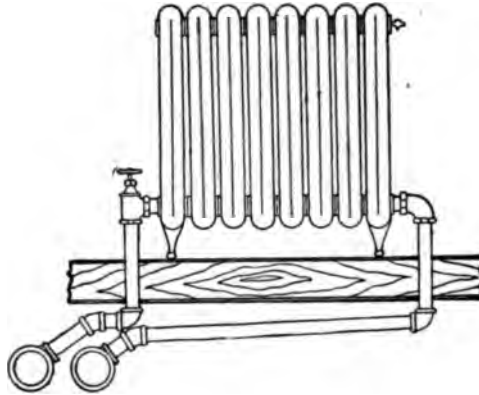
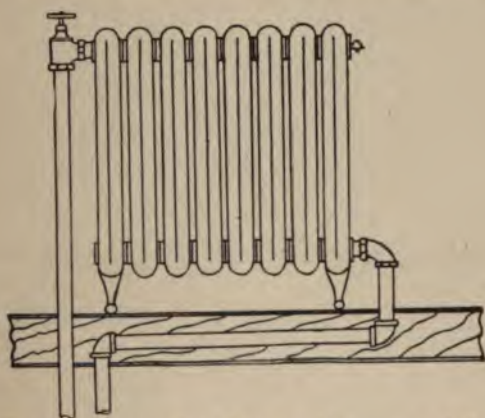
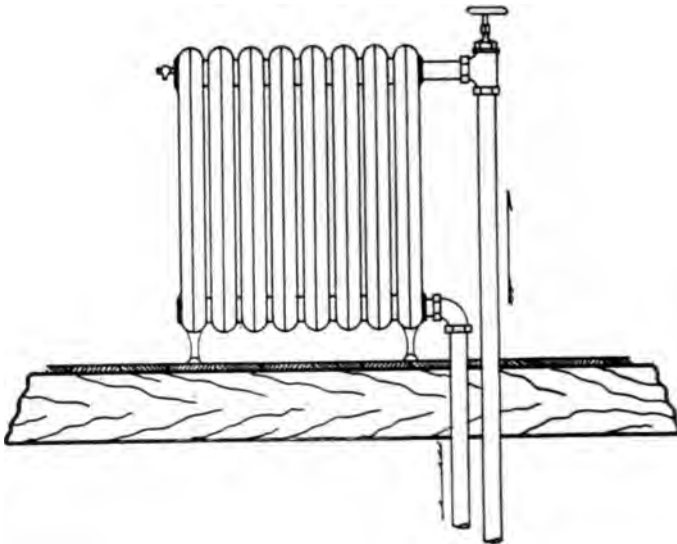

Fig. 60.—Radiator Connected at Bottom of Both Ends.
Fig. 61.—Radiator Connected at Top and Bottom of Opposite Ends.
Fig. 62.—Radiator Connected Top and Bottom of Same End.
A. On the ordinary system, and also on a circuit system, three methods may be used in connecting the radiators. (a) The flow may be connected at the bottom of one end and the return at the bottom of the opposite end. Fig. 60. (b) the flow may be connected at the top of one end and the return at the bottom of the opposite end. Fig. 61. (c) the flow may be connected at the top of one end and the return at the bottom of the same end. Fig. 62.